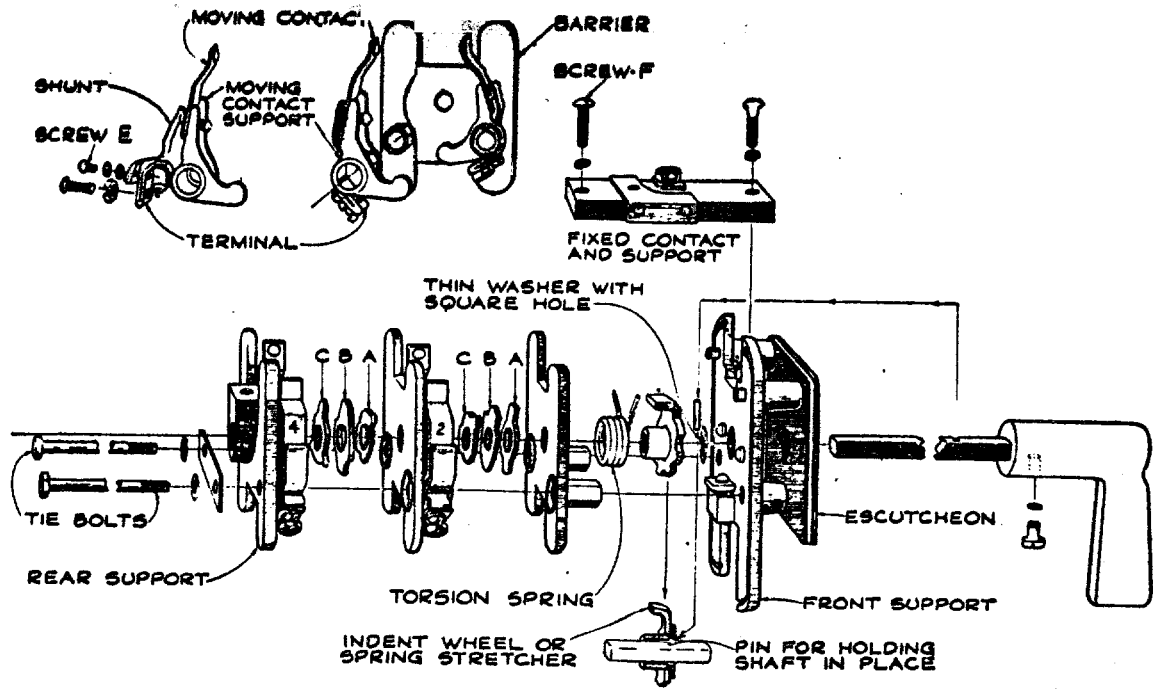

FIG. 4
To remove the moving contact, position the switch so that the contact is open. Remove screw (E) (Fig. 4) which holds the shunt to the terminal. Press in on the top of the contact to release the torque at its lower end (Fig. 6) and pull the contact upward and off.
Damage to a fixed contact requires re- placement of the complete assembly of fixed contacts and support. Remove screws (F (Fig. 4), change assemblies and replace screws. Check alignment of contacts.